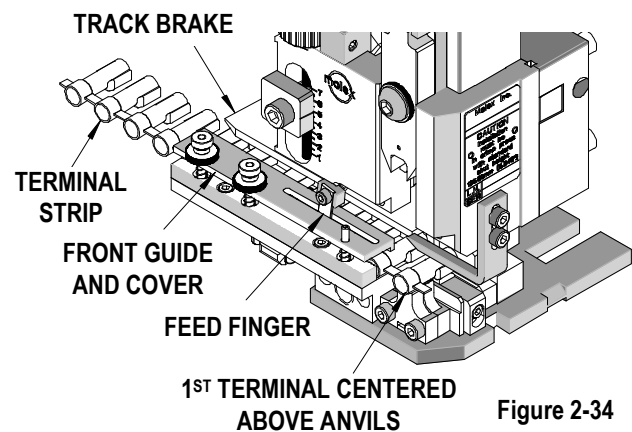

Figure 2-34
3. Push the spring loaded track brake back. This will allow the terminal strip to slide freely through the applicator track. See Figure 2-34.